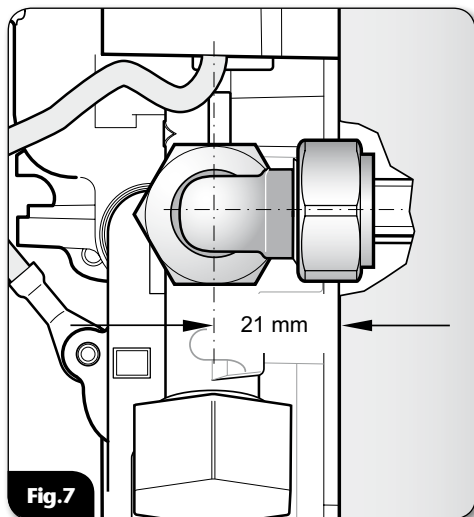

Fig.7
- Compression fittings **MUST** be used to connect to the inlet of the shower (**fig.7**). (Push-on fittings must **NOT** be used as full engagement cannot be guaranteed).
- If installing a feed pipe from the back or bottom, the centre of the inlet valve to the wall surface is 21mm (**fig.7**).
- If installing a feed pipe from the rear or bottom, the centre of the inlet valve to the wall surface is 21mm (**fig.7**).